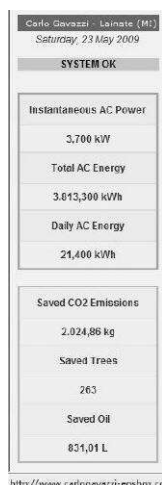

Fig. 3
- 3** On the left hands (Fig.3). Power and Savings information such as: